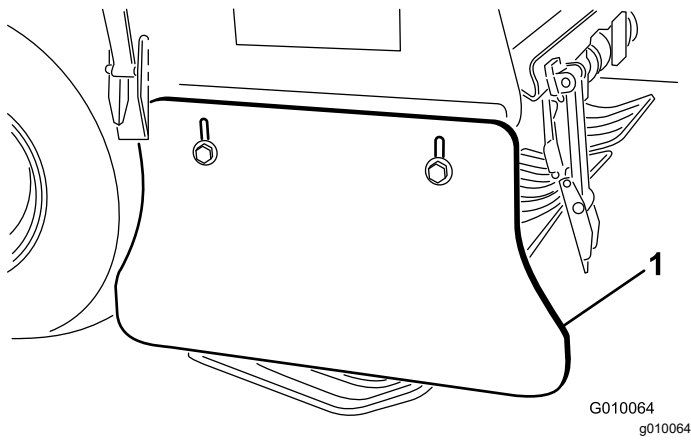

Figure 183
2. Loosen the capscrews and flange locknuts that secure the side shield to coring-head frame (Figure 183).